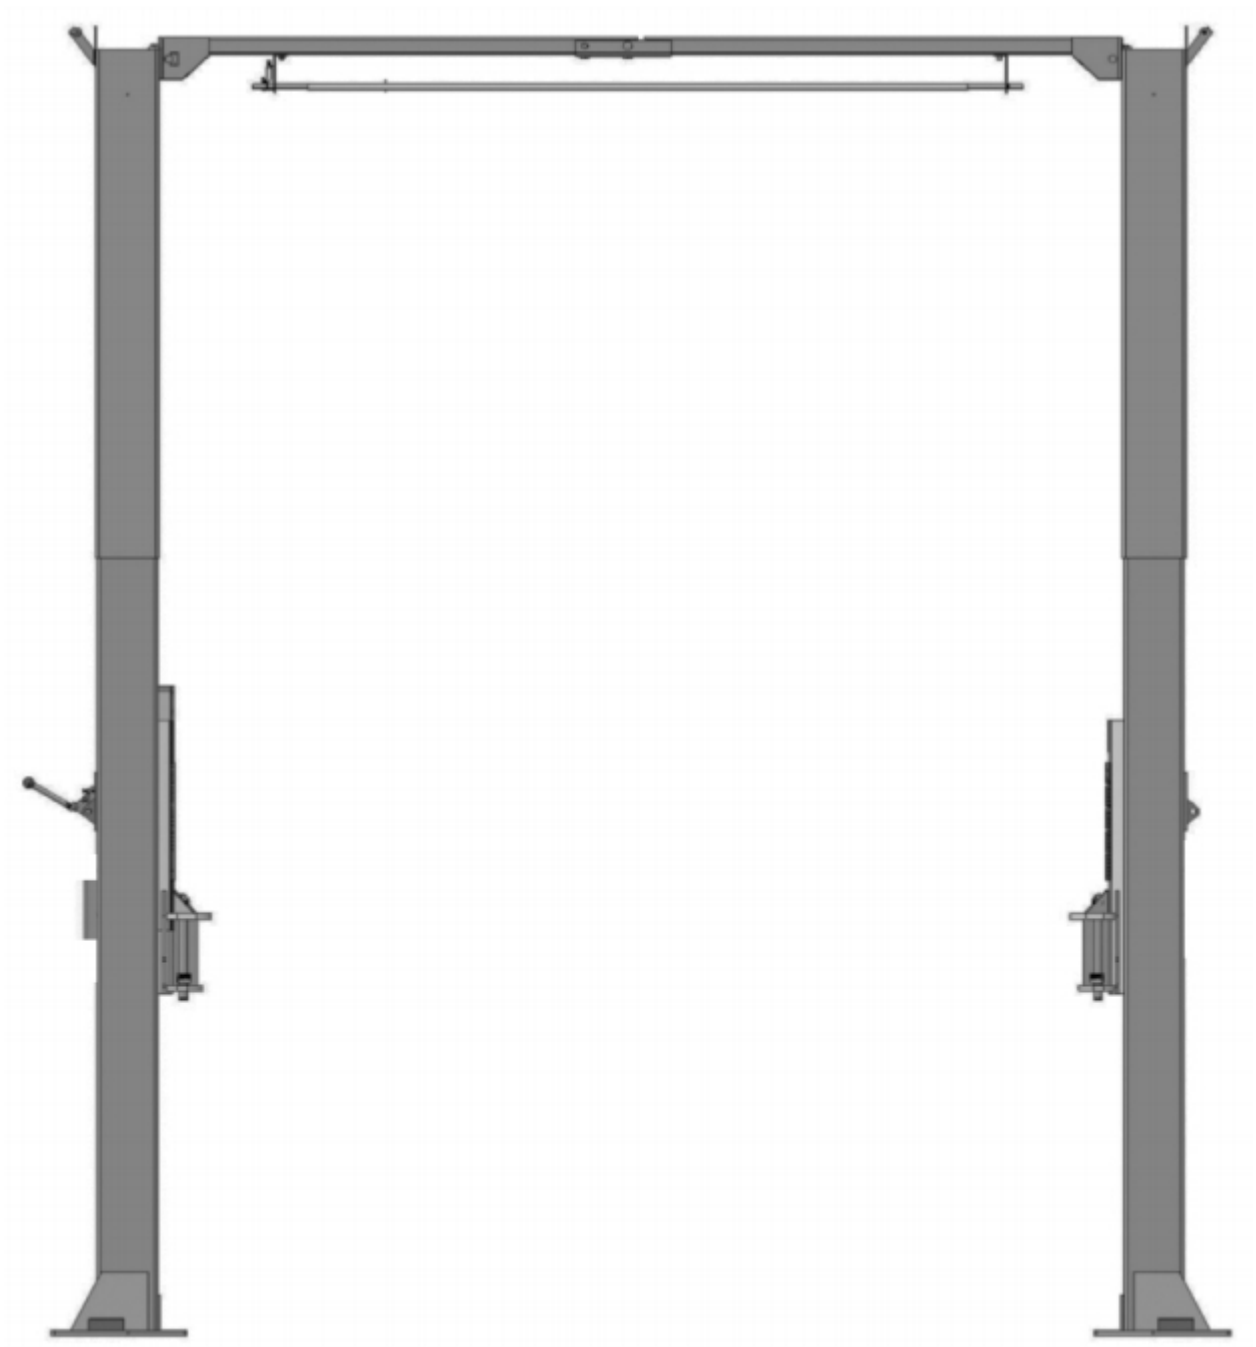

Fig. 26
K. Lift the carriages up by hand and make them be locked at the same level (**See Fig. 26**).